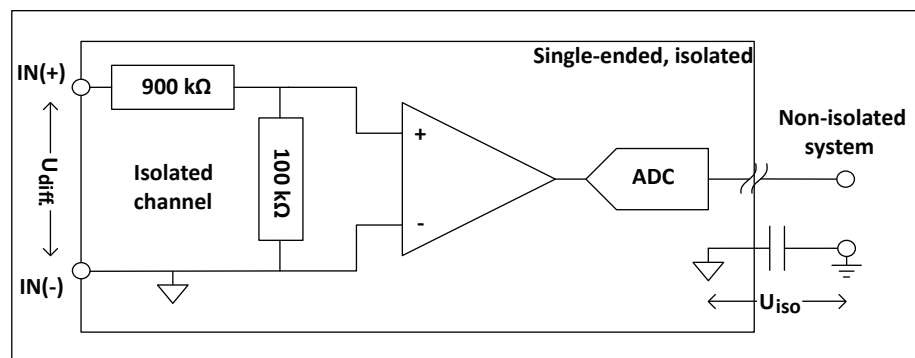

Figure 12.27: Single-ended isolated input channel
- The isolated ground is externally accessible, as shown in Figure 12.27.